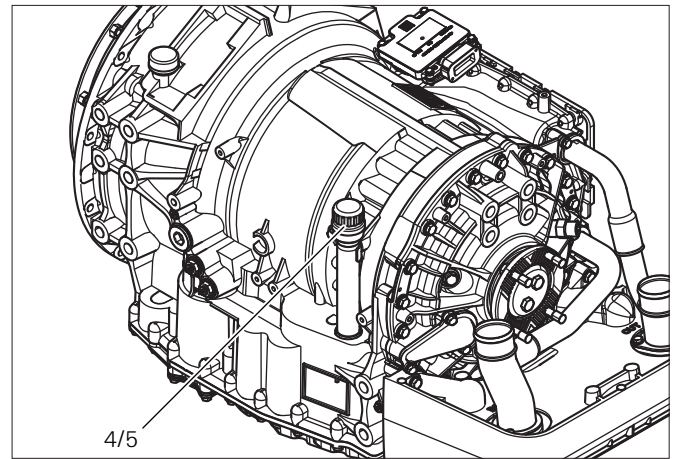

Fig. 1.7 Coaxial transmission
- Fill in oil at oil filler tube (4) according to Chapter 1.2 (reference Figs. 1.7 up to 1.9).
- Check oil level at oil dipstick (5); refer to Chapter 1.4 (reference Figs. 1.7. up to 1.9).